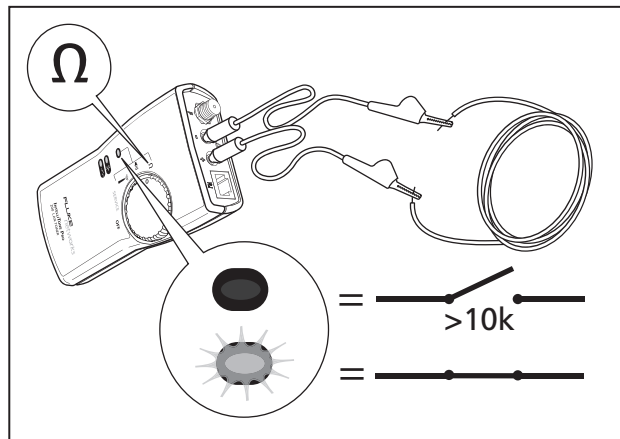

Figure 4. Continuity Test
- 3 Connect the toner to the circuit or component as shown in Figure 4.
- 5 The  LED indicates an open or closed circuit as shown in Figure 4.